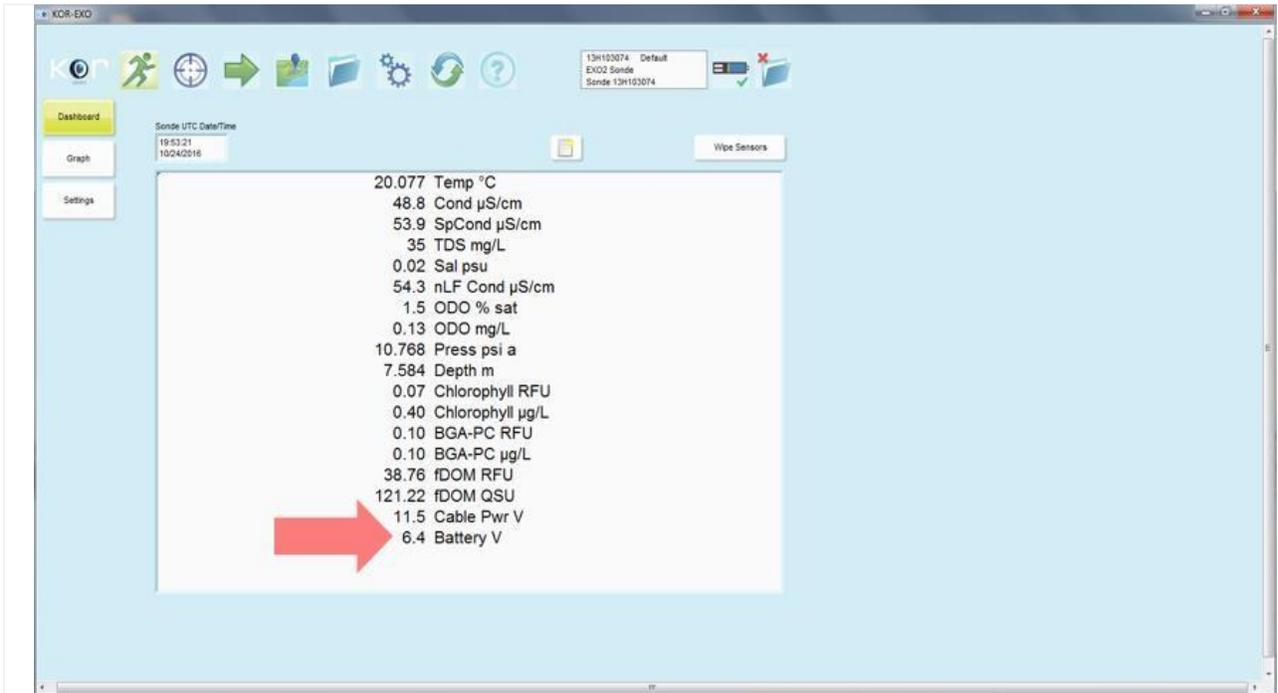

Figure 38. Internal Battery Voltage Check
**STEP 2** | Battery voltage data is available in the Multisonde Dashboard (Figure 38). Normal voltage for batteries is about 6.4. **If the battery voltage is less than ~5.5 Volts, replace the batteries.** Monitor the battery voltage more often if Field Science is aware the site is experiencing power issues. Reference Figure 35 to replace the batteries.